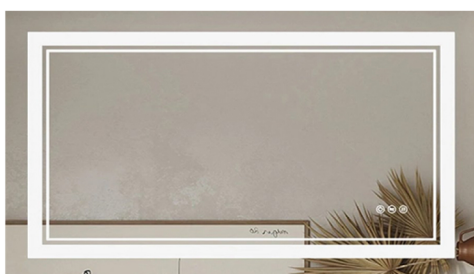

Fig. 1
7. Finally, switch on the power, then press the "Touch switch" (Fig.1) with a finger to test the products.